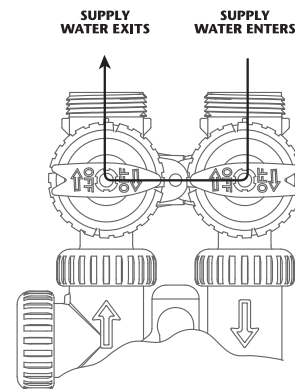

Figure 2
2. **BYPASS POSITION:** The inlet and outlet handles point to the center of the bypass. The system is isolated from the water pressure in the plumbing system. Untreated water is supplied to the building (**Fig. 2**).
- After installation is complete, rotate bypass handles to bypass mode (**see Fig.2 on page 4**).
1. With the softener in the bypass mode (**Fig. 2 on page 4**) and the control valve in normal operation where the display shows either the time of day or the gallons remaining, manually add 3" of water to the regenerant tank.